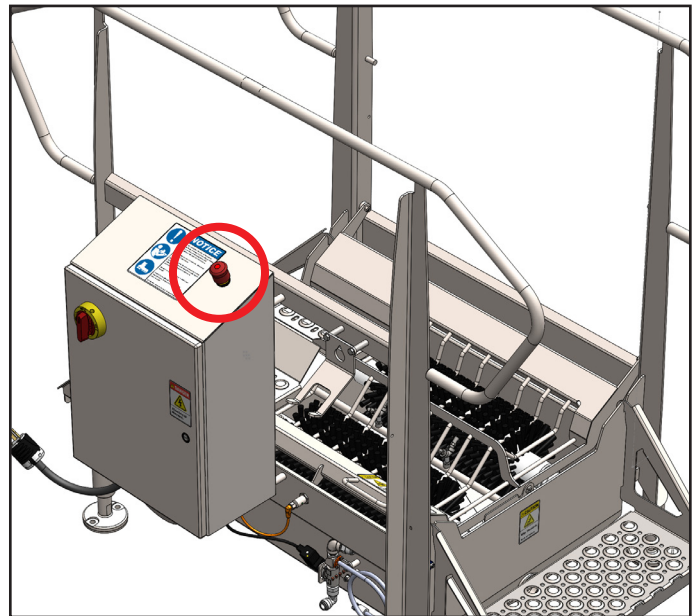

Fig. 7.1: E-STOP indicator light on control box
2. Pull the E-STOP switches up and engage power, the E-STOP will illuminate red when the unit is receiving power [Figure 7.1].